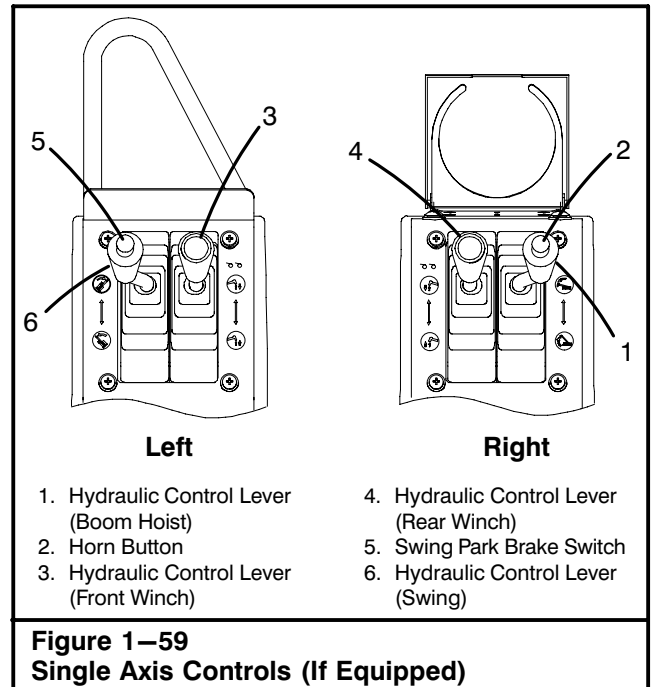

Figure 1–59
2. Push the top part of the swing park brake switch on the left seat console to release the park brake. The indicator light will go out. Refer to Figure 1—58 for switch (or Figure 1—59 if equipped with single axis controls) and Figure 1—42 for indicator light location.
2. Push the bottom part of the swing park brake switch on the left seat console to apply the park brake. The indicator light will illuminate. Refer to Figure 1—58 for switch (or Figure 1—59 if equipped with single axis controls) and Figure 1—42 for indicator light location.
This system controls raising and lowering the winch wire ropes. The system is equipped with a two speed motor that, when activated, will approximately double winch line speed. The controls for the system are shown in Figure 1–58 (or Figure 1–59 if equipped with single axis controls). Review the following for control descriptions and brief summary of operation.
This switch is used to control engaging/disengaging the high/low speed hoist and disabling the front or rear winch. Refer to Figure 1–58.